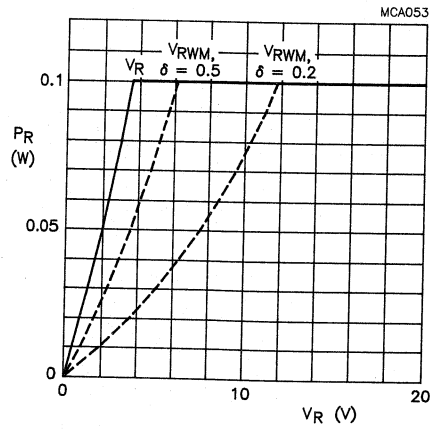

Fig.8 **PRLL5817**. Reverse power dissipation as a function of reverse voltage (max. values); device mounted as shown in Fig.2.
3. Determine the reverse power losses  $P_R$  from Figs 8, 10 or 12 and multiply  $P_R$  by 150 K/W, giving a certain number of degrees centigrade (this being the increase of junction temperature caused by reverse power dissipation).